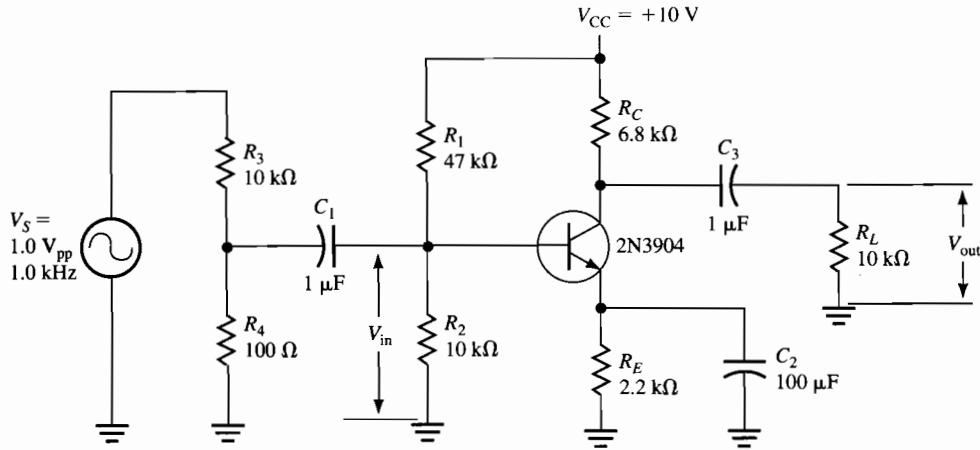

Figure 38–3
2. Using measured resistances, compute the dc parameters listed in Table 38–2 for the CE amplifier shown in Figure 38–3. This circuit, like most voltage divider bias circuits, uses a “stiff” divider; therefore, the equation shown in the box in Figure 38–1 is satisfactory for finding the base voltage. Compute the base voltage, V_B , emitter voltage, V_E , and emitter current, I_E , as described in the Summary of Theory. The emitter current is assumed to be the same as the collector current. Use this idea and Ohm’s law to find the voltage drop across the collector resistor. V_C can then be found by subtracting this voltage drop from V_{CC} . V_{CE} is the difference between V_C and V_E .
3. Construct the amplifier shown in Figure 38–3. The signal generator should be turned off. Measure and record the dc voltages listed in Table 38–2. Your measured and computed values should agree within 10%.